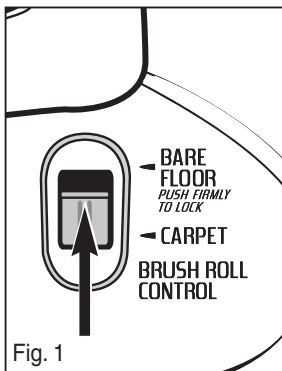

Fig. 1
- 1) For bare floor cleaning, push brush roll control lever firmly to lock in 'bare floor' setting to stop brush roll (Fig. 1).